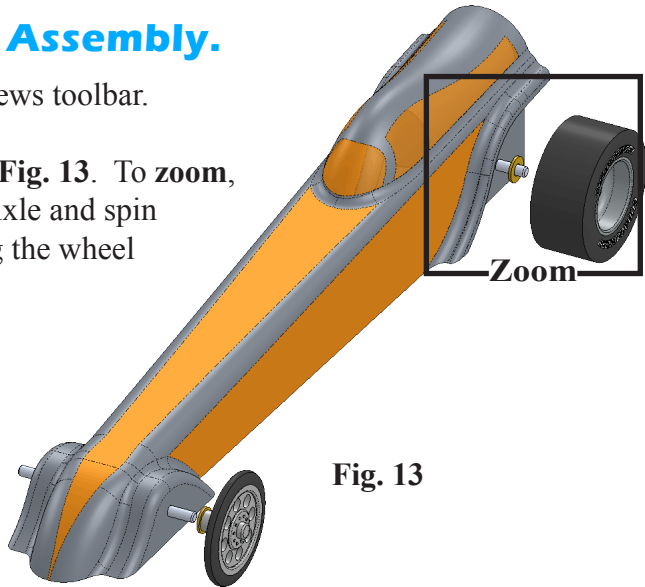

Fig. 13
Step 2. Zoom in around **Rear Wheel Assembly, Fig. 13**. To zoom, place the cursor over the Rear Wheel at Axle and spin the wheel on mouse back. While spinning the wheel keep cursor on Rear Wheel at Axle.